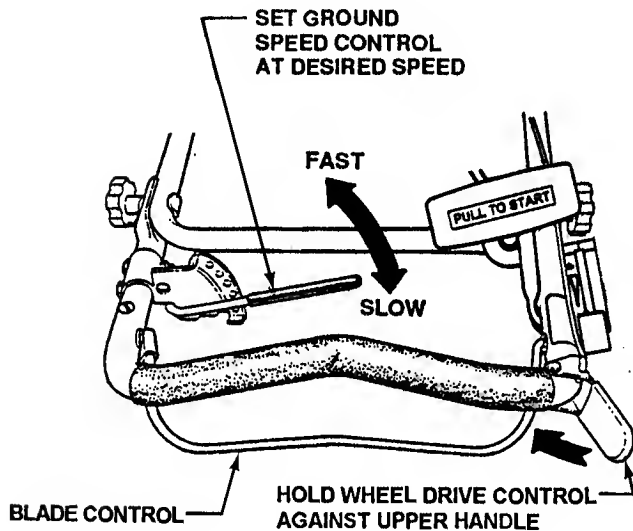

FIGURE 2.5
2. Set the ground speed control lever at the desired speed. See Figure 2.5.
3. Hold the wheel drive control against the upper handle. The mower will now begin to move forward. To stop forward motion, release the wheel drive control. The mower can then be pushed forward or pulled backward for trimming. Refer to Figure 2.5.